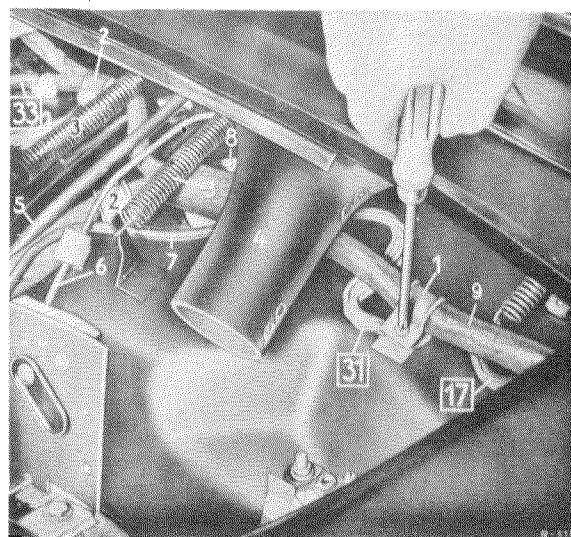

Fig. 54 — 1/3
14. Disconnect Cable Sheaf **30** with Leads Nos. 50 and 51 at the cable connector for the reversing light switch and take it out of the fixing clip (1) at the cowling (see Fig. 54—1/4).